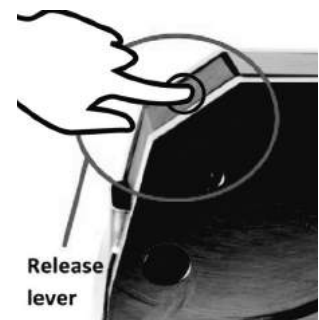

Figure 10
3. Release the remote control advance button, while continuing to push down on the release lever. (Figure 10)